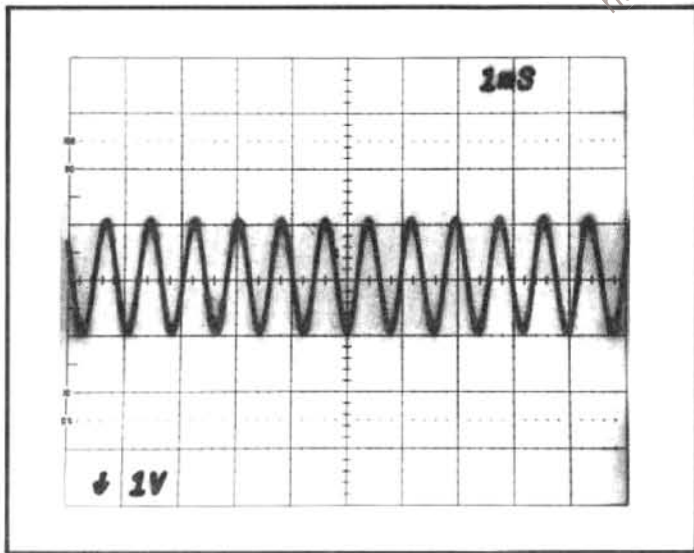

Figure 4-23. Test oscilloscope display of a sinewave input signal to the external TRIG connector (1.0 volt peak at 2.0 V peak-to-peak).
h. Set the output level of the signal to 2 V peak-to-peak (1.0 V peak) as indicated on the test Oscilloscope (see Figure 4-23).